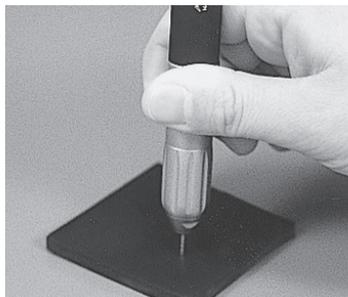

Fig. 7
- 1) As the chuck of the PRESTO handpiece is a push-in type, set the FG burs of $\phi 1.6\text{mm}$ and push in as shown in Fig.7